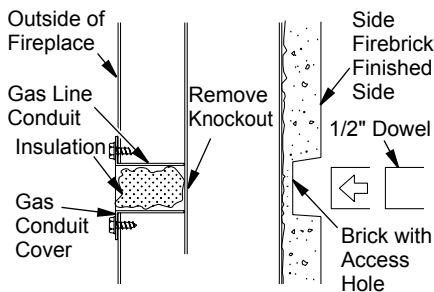

Figure 15 - Gas Line Access
1. Remove knockout indentation on refractory or firebrick wall located above refractory hearth floor. Knockout indentation must be firmly tapped with any solid object such as a 1/2" dowel until it is released. Remove fragmented portions of refractory (**see Figure 15**).